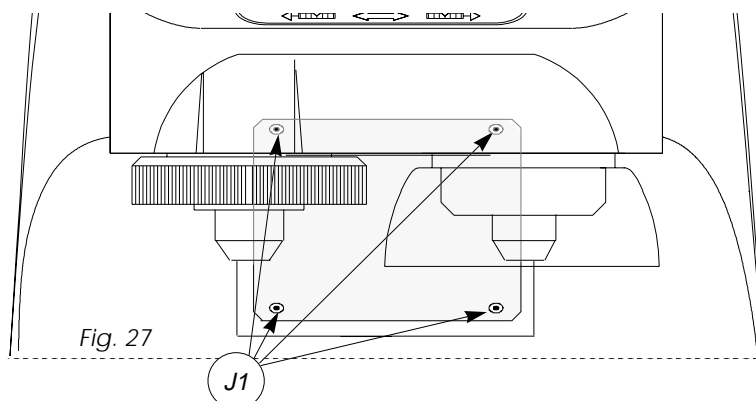

Fig. 27
2. remove the four screws (J1) which secure the glass cover (Fig.27).